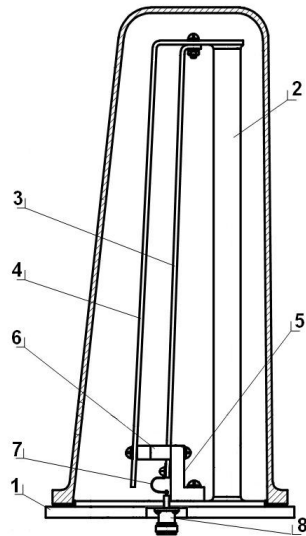

Fig. 1
5.1. The antenna “AL1/160” is the non-symmetrical quarter-wavelength folded monopole structurally contained the base 1, the leg 2 and the planar monopole 3 (Fig. 1). The geometric shortening of the antenna is achieved using the additional plane sectional linear radiating element 4 with distributed capacity.